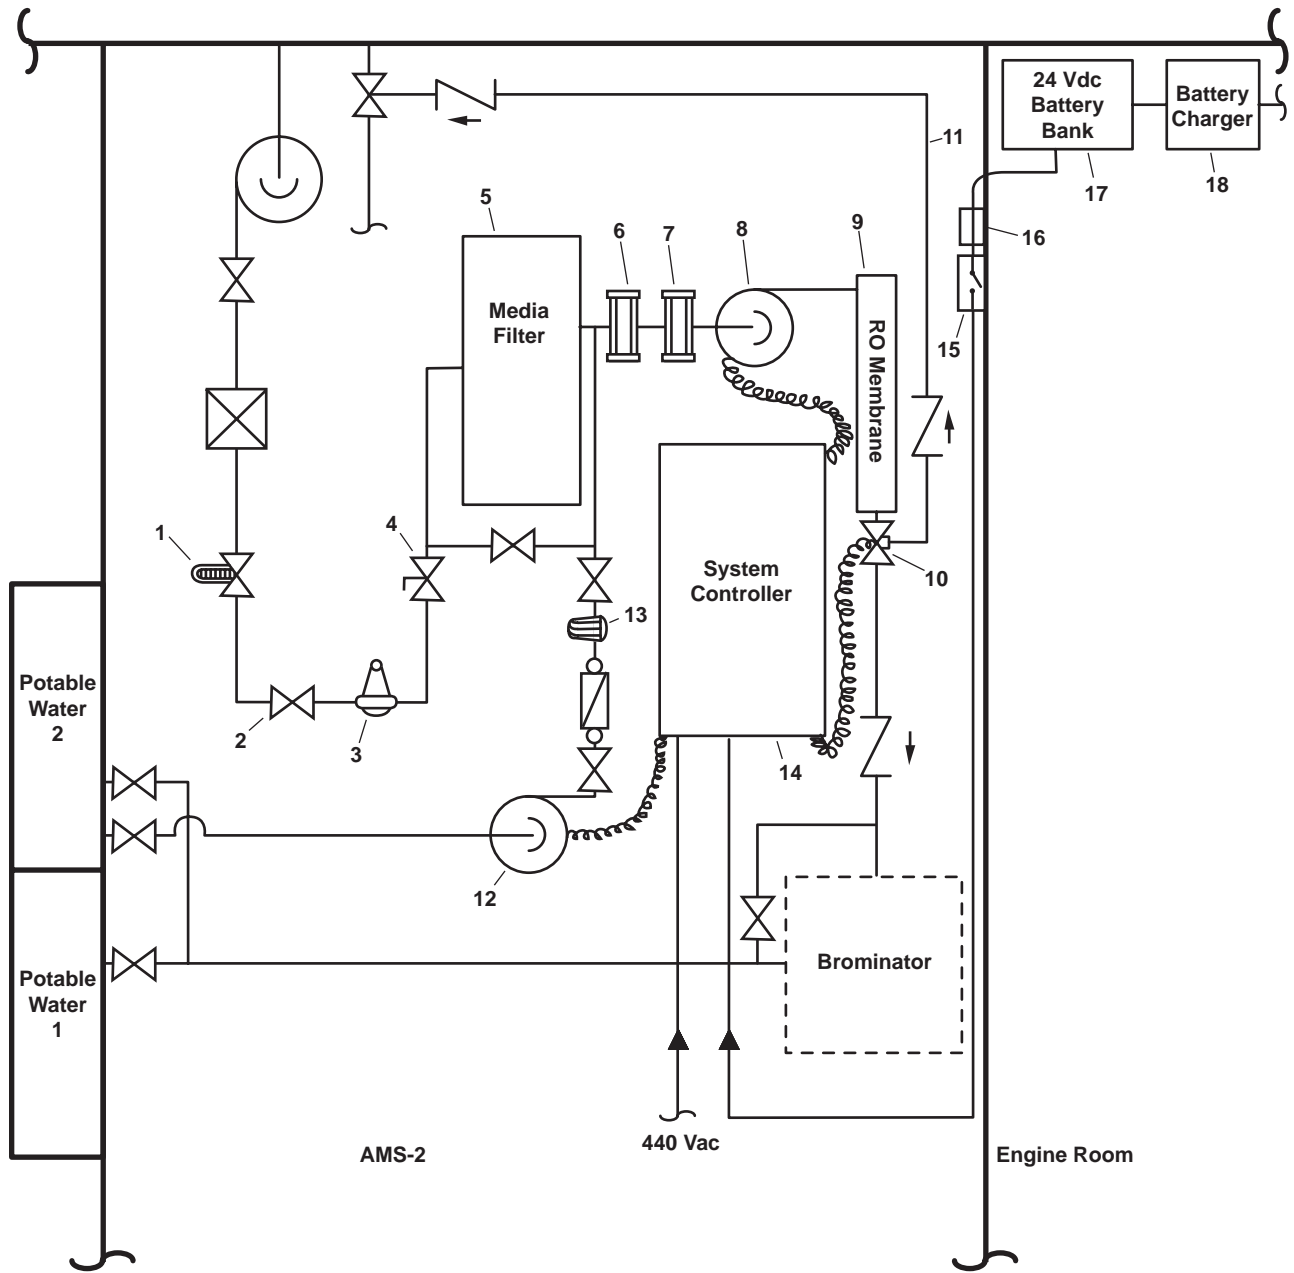

Figure 3. ROWPU System Diagram
Table 1 outlines the major functional components of the ROWPU system. The item number corresponds to the callouts in figure 3. The components are outlined in a logical fashion that will allow the reader to understand the basic operating principles of the ROWPU. The ROWPU contains two units. ROWPU 1 (the starboard unit) is fitted with two reverse osmosis membranes, and ROWPU 2 (the port unit) has only one membrane.
Table 1. Major Functional Components of the ROWPU System (Refer to Figure 3)
| Item No.(Refer toFigure 3) | Nomenclature   | Description   |
**Table 1. Major Functional Components of the ROWPU System (Refer to Figure 3) (continued)**
| Item No.(Refer toFigure 3) | Nomenclature                           | Description   |
| 10                                 | Solenoid Operated 3-Way Diverter Valve | The solenoid operated 3-way diverter valves are controlled by the system controllers (figure 3, item 14). The controllers sense the salinity of the product water output by the membranes. If the product water salinity is within tolerances, the product water is sent to the brominator and on to the potable water tanks. If product water salinity is too high, the product water is diverted and sent overboard as ROWPU system product brine.  |
Table 1. Major Functional Components of the ROWPU System (Refer to Figure 3) (continued)
| Item No.(Refer toFigure 3) | Nomenclature                                     | Description   |